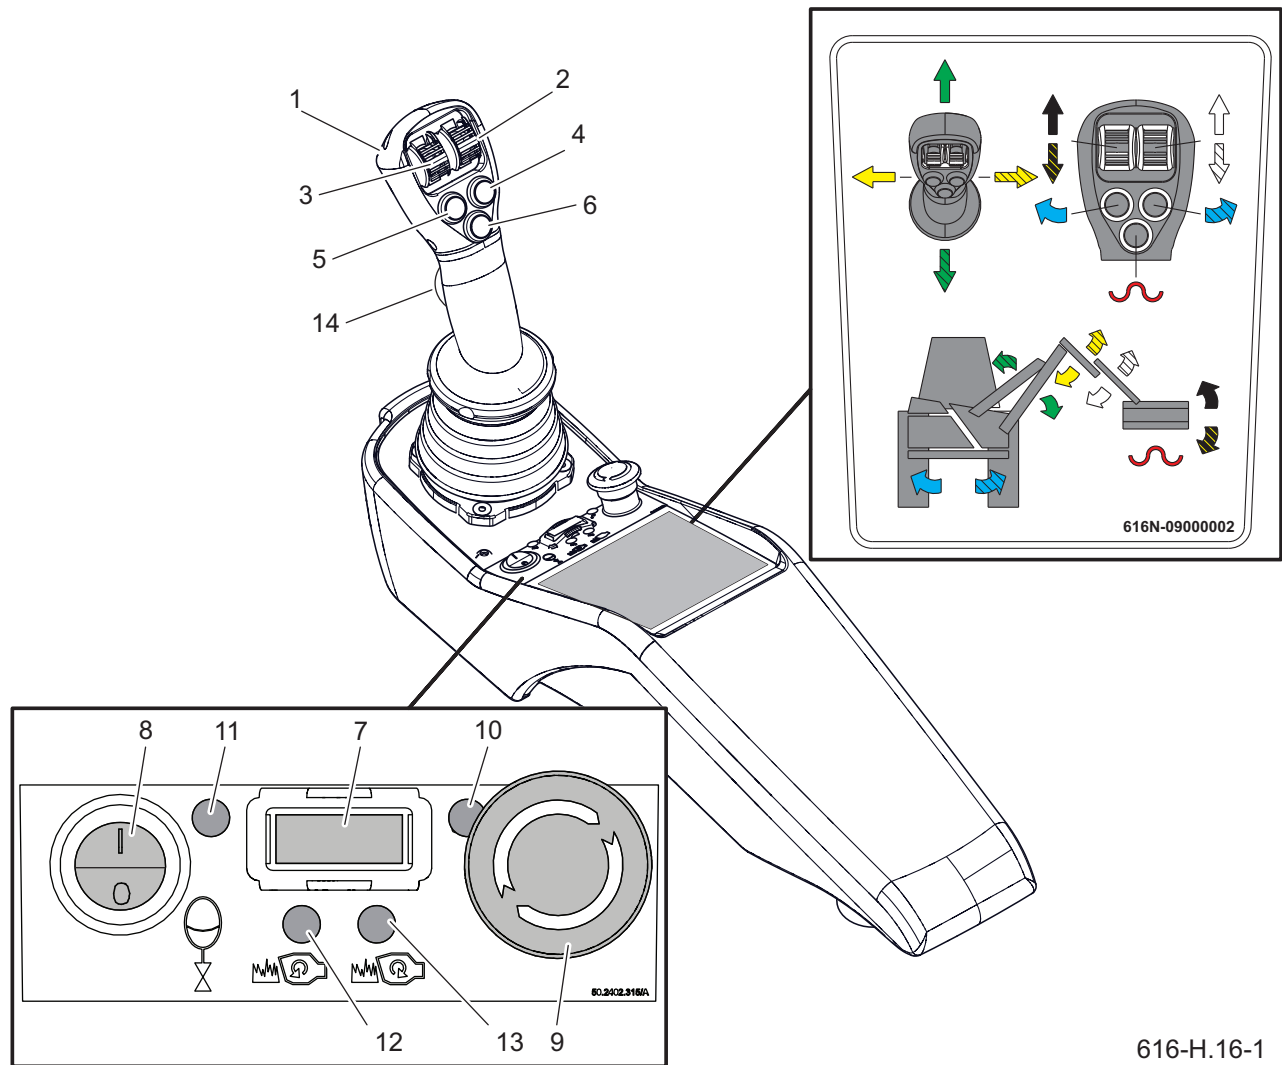

Figure 4.5 Operating the multifunction arm
Start unfolding the machine from the main arm hydraulic cylinder (joystick lever). Start folding the machine by folding the head arm - control roller (2) (FIGURE 4.5).
To control the multifunction arm movements, the operator must hold the joystick and press the safety button simultaneously (14) (FIGURE 4.5). This prevents accidental activation of the multifunction arm hydraulic cylinders when the joystick is unintentionally touched.
Before manoeuvring the multifunction arm, confirm that the power supply switch of the control panel (9) (FIGURE 4.5) is in the unlocked position. If the switch is depressed and locked, turn it to unlock. Activation of the power supply of the control panel is
The multifunction arm movements are controlled by means of the joystick. The pictogram placed on the joystick lever mounting (1) (FIGURE 4.5) shows the
Individual functions of the joystick (FIGURE 4.5):
After setting the multifunction arm in transport position, switch the ball valves (1) and (2) protecting the cylinders to CLOSED position (B) (FIGURE 4.8), and set the switch (8) (FIGURE 4.5) of the arm shock absorbing unit to OFF position.
- operate appropriate hydraulic cylinders of the multifunction arm (FIGURE 4.5) in order to place the working head in the working area (FIGURE 4.9),
multifunction arm's controls (FIGURE 4.5),